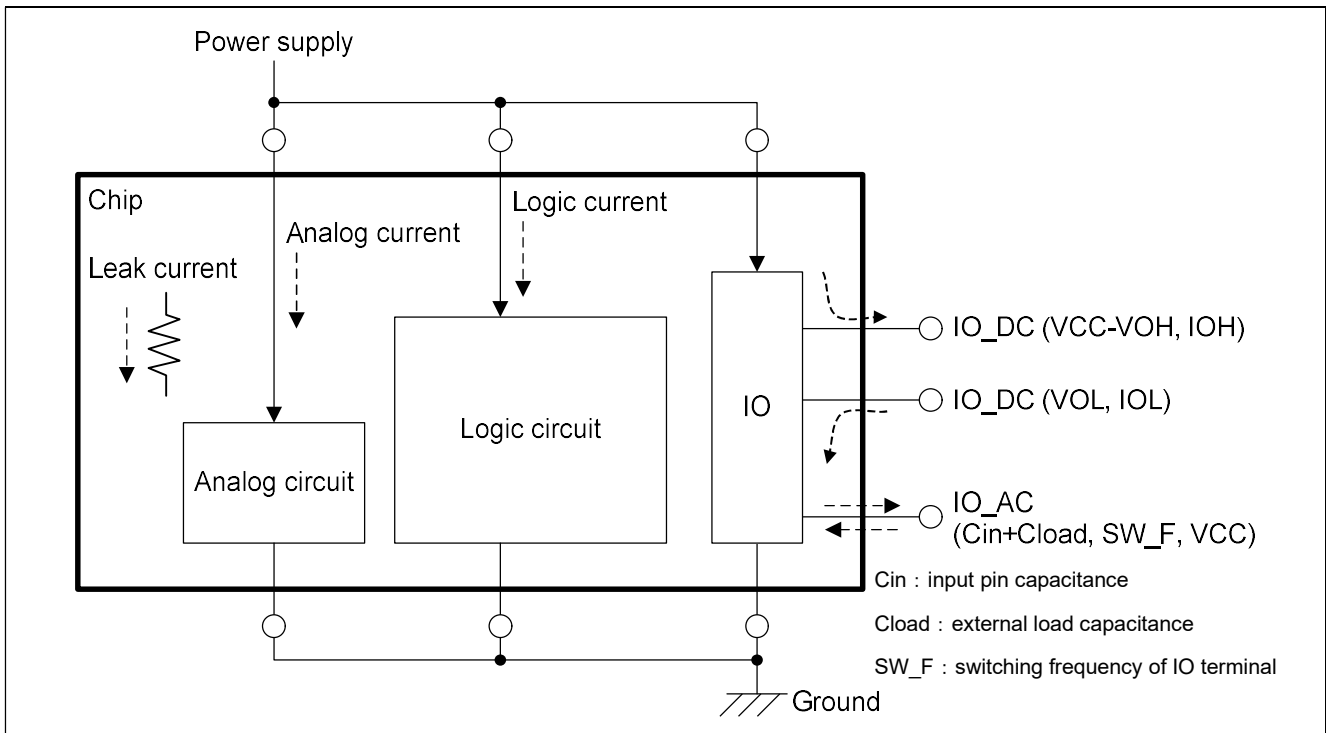

Figure 3.1 Current Path Configuration Diagram
Figure 3.1 is a configuration diagram showing the current paths. The current in Formula (1) consists of DC current and AC current, and they are calculated using the following formulas: